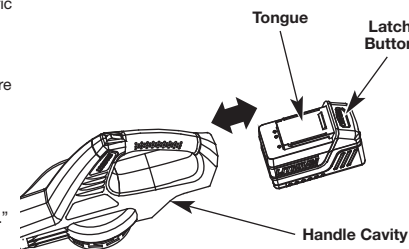

Fig. 2
1. Align the tongue of the battery with the handle cavity (Fig. 2).
1. Press the latch button on the battery down and hold (Fig. 2).
1. Fit the battery into the handle cavity (Fig. 2). Refer to *Installing the Battery*.